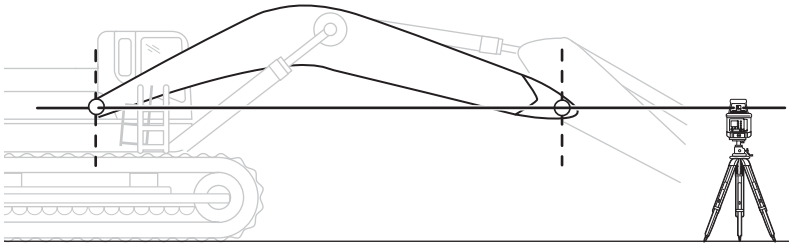

Figure A-9. Place Laser to Strike Center of Boom Pivot
3. Adjust the laser height to strike the center of the boom pivot (Figure A-9).
4. Move the boom to align the stick pivot with the laser (Figure A-9).